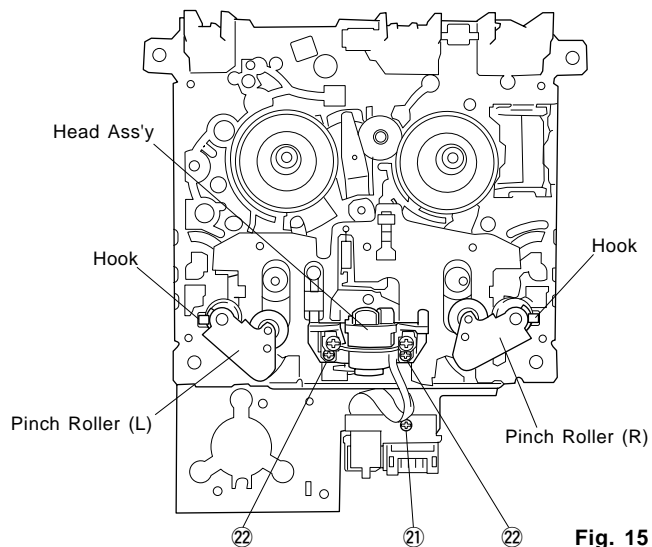

Fig. 15
Detach the hook and then remove the Pinch Roller in Fig. 15.
- Remove 1 screw ( ②1 ) and then remove the Relay P.C.B. in Fig. 15.
- Remove 2 screws ( ②2 ) and then remove the Head Ass'y in Fig. 15.